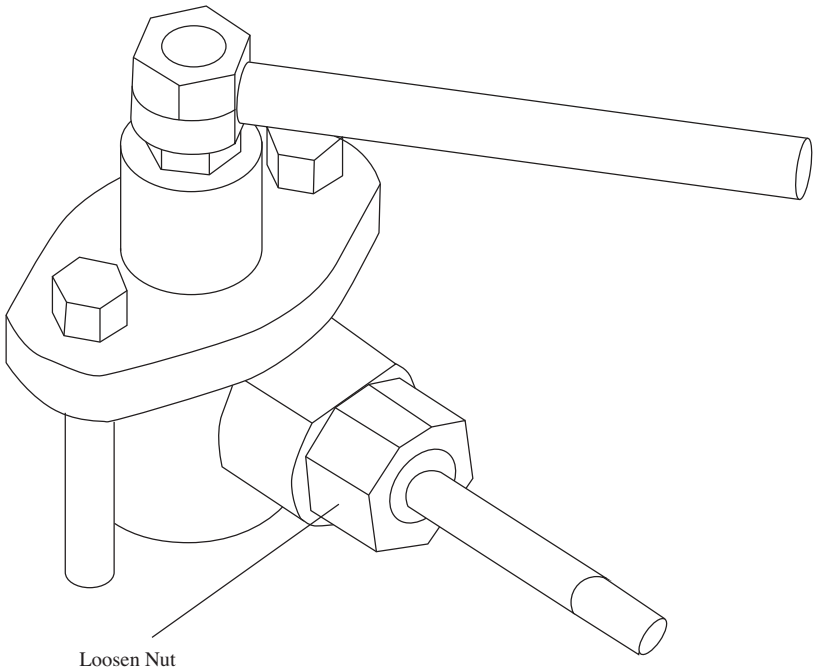

FIG. 6-25 Loosen the high-pressure union at the injector to check for fuel delivery and to purge air from the system.
2. Loosen the high-pressure line at the injector a half turn or so (Fig. 6-25). Briefly crank the engine to verify that the injector receives fuel and to bleed any air present between the pump outlet and injector.